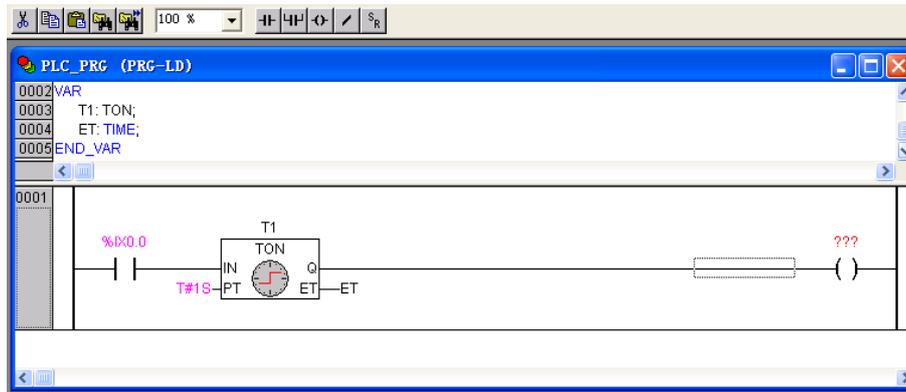

Figure 3-6-7 Programming Step (7)
- Put the cursor after “T1”, then click the coil button “” on tool bar, a coil “-()-”^{???} will appear at the cursor position, as shown in figure 3-6-7.